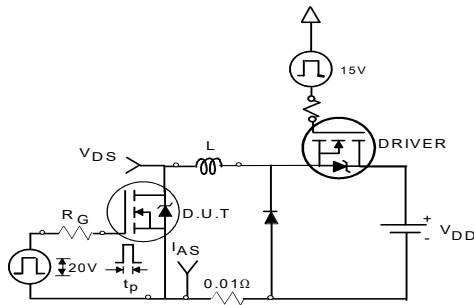

Fig 22a. Unclamped Inductive Test Circuit
- Equation below based on circuit and waveforms shown in Figures 22a, 22b.